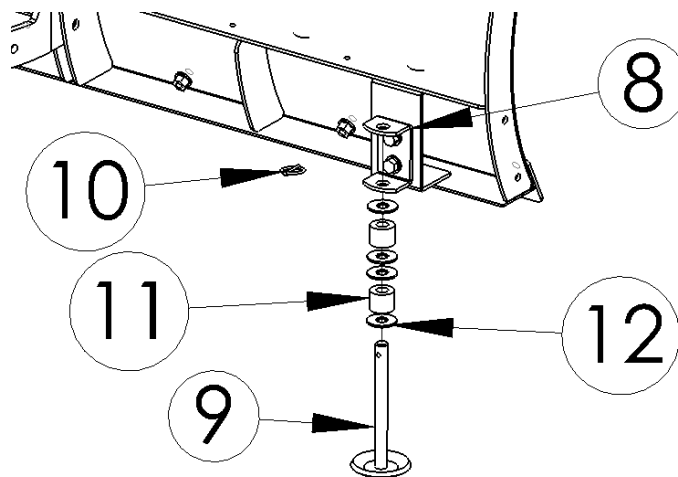

Figure 4
- 4) Install your Skid Feet (#9) using the 5/8" Flat Washers (#12) and the Rubber Bushings (#11) included in your kit (**Figure 4**). The height of the Skid Feet can be adjusted by adjusting the location of the skid feet and washers from the bottom of the bracket to the top. The Skid Feet are fully extended when the Washers and Bushings all stack against the bottom side of the Skid Feet Bracket as shown in Figure 4. The Skid Feet are fully retracted when all Washer and Bushings are on the top side of the Skid Feet Bracket. Secure the Skid Feet using the included Snap Rings (#10).